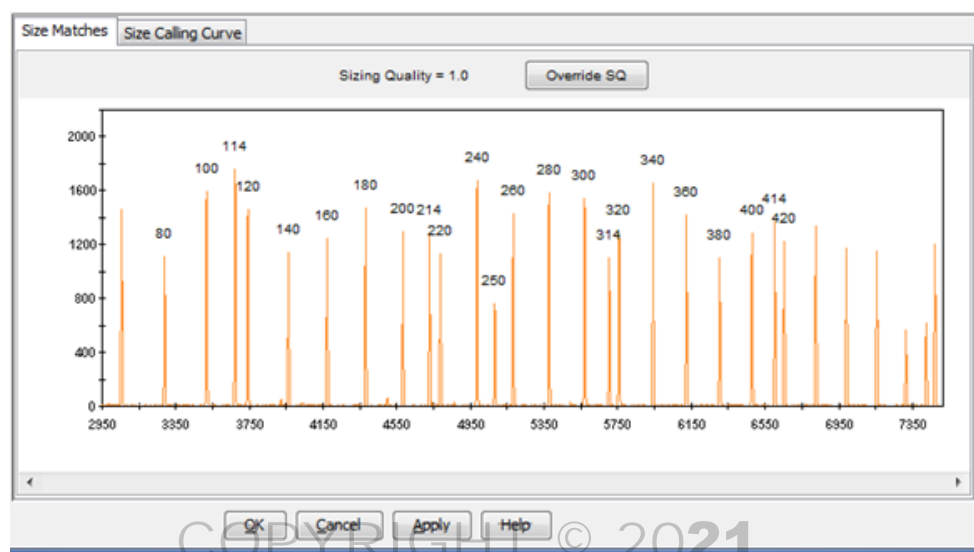

Figure 1. GeneScan™ 600 LIZ® Size standard v2.0. The peaks are labeled with their base pair size.
- 3.2.3 If the sizing standard is observed for the sample, check to see that all peaks are detected and the peaks are labeled correctly. The peaks should follow the pattern shown in Figure 1.